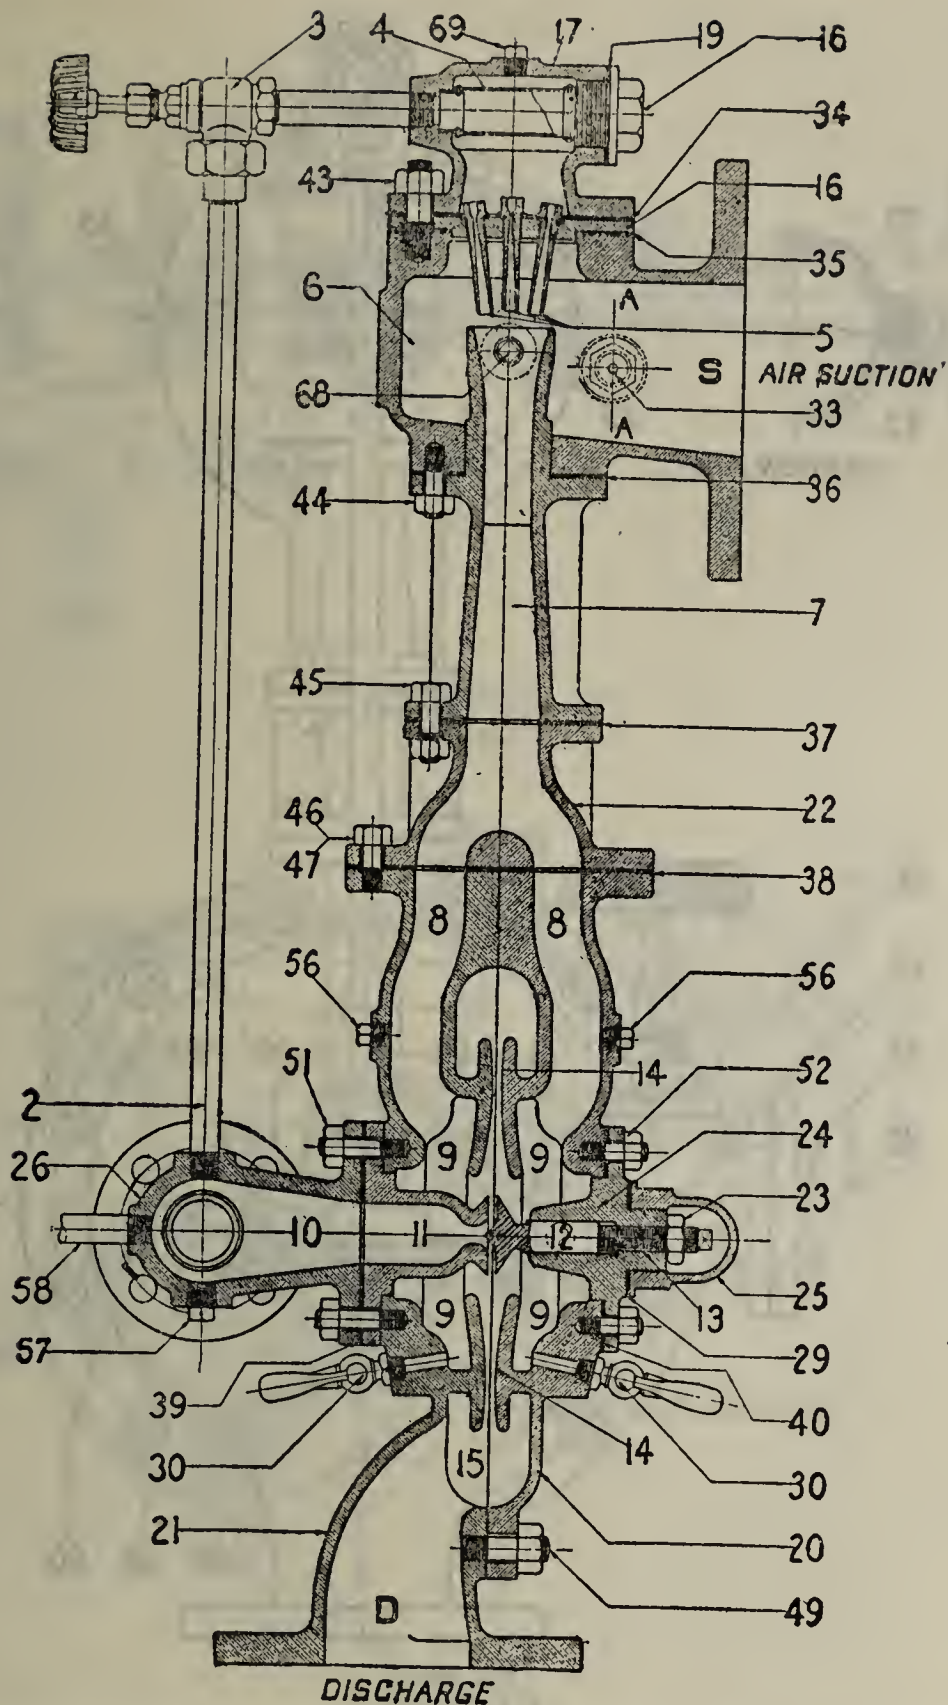

FIG. 14-4.
Principles of operation. 14-87. Figures 14-4 and 14-5 show the details of the radojet, and 14-6 and 14-7 of the air ejector. The general principles of operation of both types are the same. The apparatus consists of two steam ejectors working in series, the upper ejector being called the first stage and the lower the second stage. In operation, live steam, generally through a reducing valve, is delivered to the upper or first-stage jets. The steam expands through these jets or expansion nozzles and gains a high velocity. The jets of steam from the first stage pass across a suction space in communication with the main condenser, where they mix and draw air from the condenser. The mixture of air and steam then enters a large diverging nozzle called the diffuser, or second-stage steam chest. Steam from the second-stage nozzles draws the mixture from the second-stage steam chest, or chamber, whence it is discharged past a check valve, either to the atmosphere or to the feed tanks. In the air-ejector installation an air separator is usually fitted between the ejector and the feed tank.
14-92. The second-stage nozzle-point adjustment is the only adjustment required on the radojet. (See figs. 14-4 and 14-5.) There is no corresponding adjustment on the air ejector. Should it be necessary for any reason to remove the nozzle point (12), unscrew nozzle cap (25), unscrew lock nut (23), and then unscrew the nozzle point after the nozzle-point guide (24) is taken off. To replace, screw nozzle point in, until the shoulder brings up on (24). This is done as a precaution to prevent the face of the nozzle point being jammed against the nozzle (11) when the guide is replaced. Replace guide (24) and make up the joint, using a new gasket if there is any doubt about the condition of the old one. This joint must be securely and finally made at this time because any work on it after the nozzle point is adjusted will affect Second-stage
14-95. In reassembling, care must be taken that all gaskets are in good condition, and joints properly made and set up; otherwise there will be air leaks. In the radojet do not use gaskets where ground joints are provided, such as between pump bodies (20) and (21), and between pump body (21) and second-stage nozzle (11). (Figs. 14-4 and 14-5.)